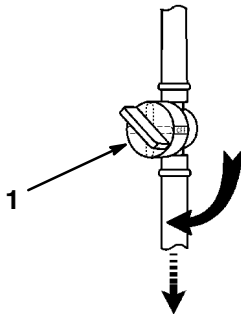

Figure 8
1. Open the fuel shut-off valve (Fig. 8) located between the fuel tank and the engine. The handle should align with the fuel hose.